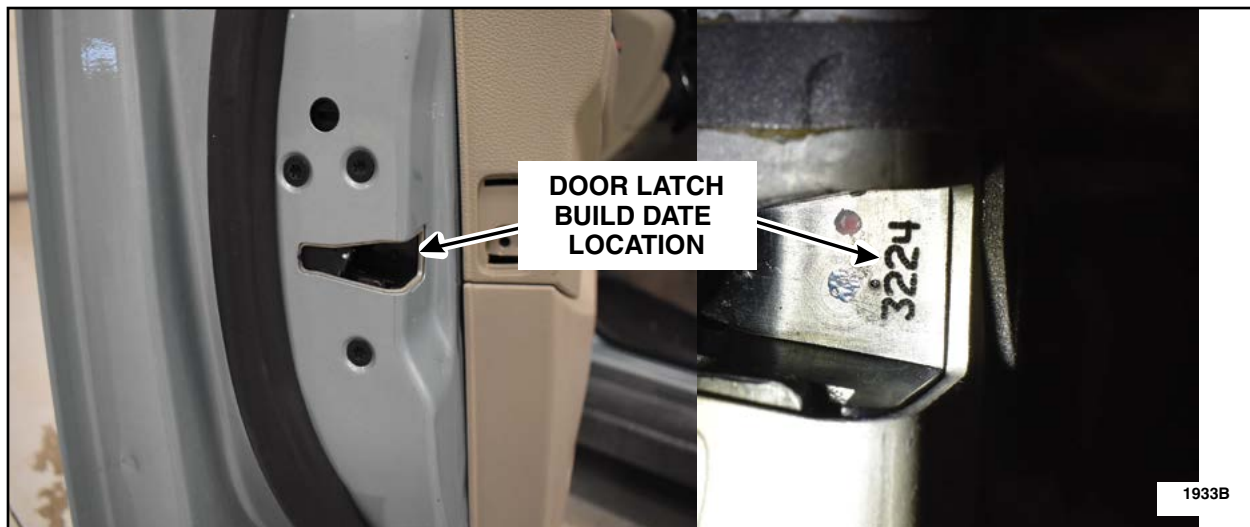

FIGURE 8
4. Once the **new** latches have been installed in the vehicle, record all four date codes of the **new** latches. Additionally, capture a picture of the date code of each new door latch (four pictures total) showing them installed in the vehicle. These pictures will need to be submitted on the SSSC web questionnaire. See Figure 8.